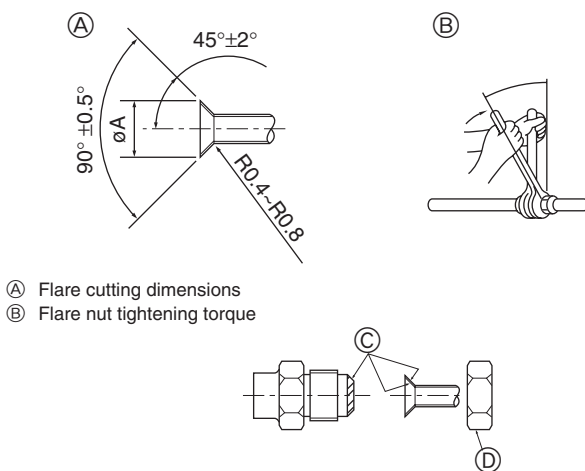

Fig. 5-1
5.2. Connecting pipes (Fig. 5-1)
- Apply thin layer of refrigerant oil to pipe and joint seating surface before tightening flare nut. (A)
- Use two wrenches to tighten piping connections. (B)
- Apply refrigerating machine oil over the entire flare seat surface. (C)
- Use the flare nuts as follows. (D)
(A) (Fig. 5-1)
(B) (Fig. 5-1)